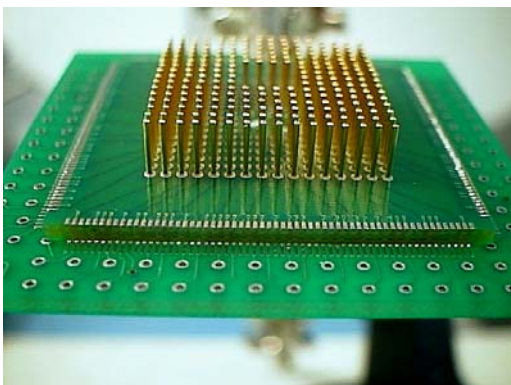

Figure 6: Solder Connections
(8) Clean thoroughly in an ultra-sonic cleaner. The picture of the solder connection is shown in Figure 6.